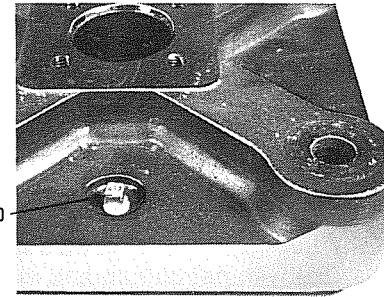

Figure 7-12, Installing drain plug in oil end plate.
7.2.4 Place oil end plate (58) flat on bench, outside up. Wrap threads of square head plug (30) with Teflon® tape and install in end plate drain hole. See Figure 7-12.